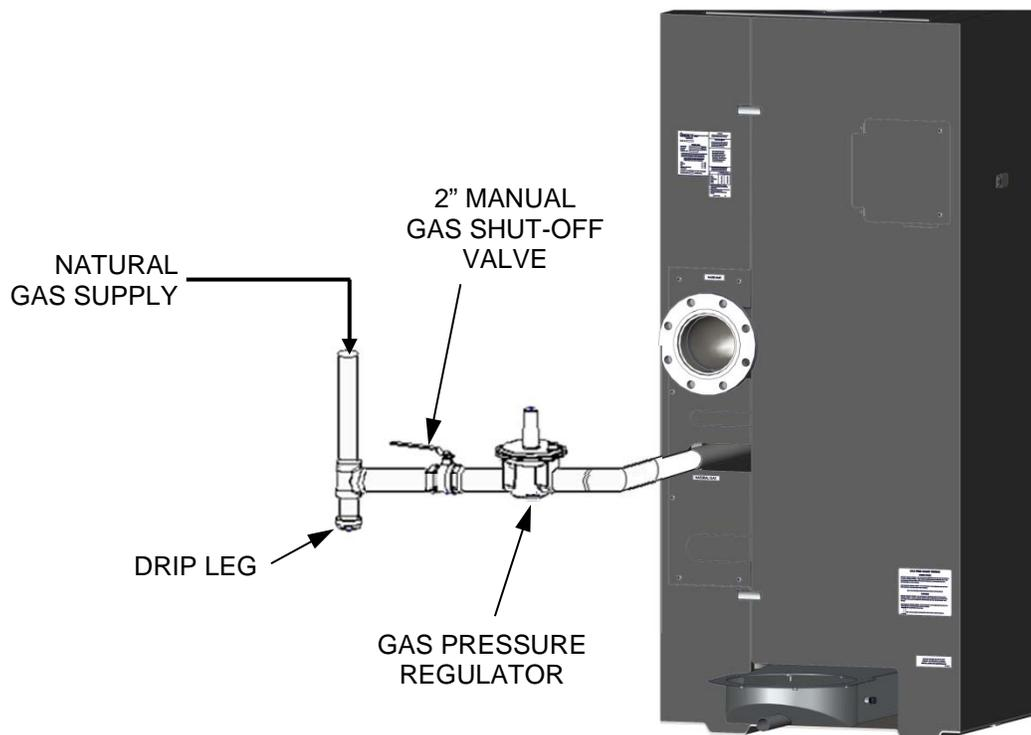

Figure 2-10: Manual Gas Shut-Off Valve Location
A manual shut-off valve must be installed in the gas supply line upstream of the boiler, as shown in Figure 2-10.
- For installations with 3 or more units that **exceed 1 PSI (6.9 kW)** gas pressure, a separate external gas supply regulator is highly recommended (see Figure 2-10). No regulator is required for gas pressures **below 1 PSI (6.9 kW)** of pressure, **but above 2 PSI (13.8 kW) it is mandatory**. Consult the Benchmark Gas Supply Design Guide, TAG-0086, GF-2035, and the local gas utility for detailed requirements concerning venting of the supply gas regulator.